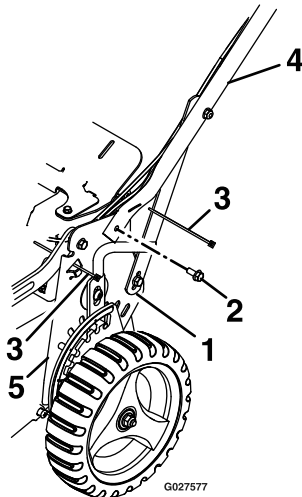

Figure 1
1. Remove the handle mounting screws from LH and RH sides of the mower (reference Figure 1).
3. Reinstall the handle mounting screws on both sides to secure the handle to the mower housing (see Figure 1). Tighten all hardware on the handle.
4. Use the wire tie to secure the cables to the lower part of the handle as shown in Figure 1. Tighten all wire ties on the handle.
5. Use wire tie to secure the cables to the side bracket to keep cables from touching the fuel tank as shown in Figure 1